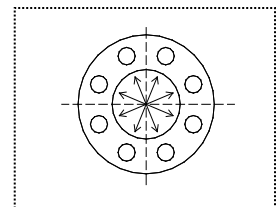

Fig. 6
- 4) Tighten the bolts and nuts gradually using a torque wrench to the specified torque value in a diagonal manner. Fig. 6